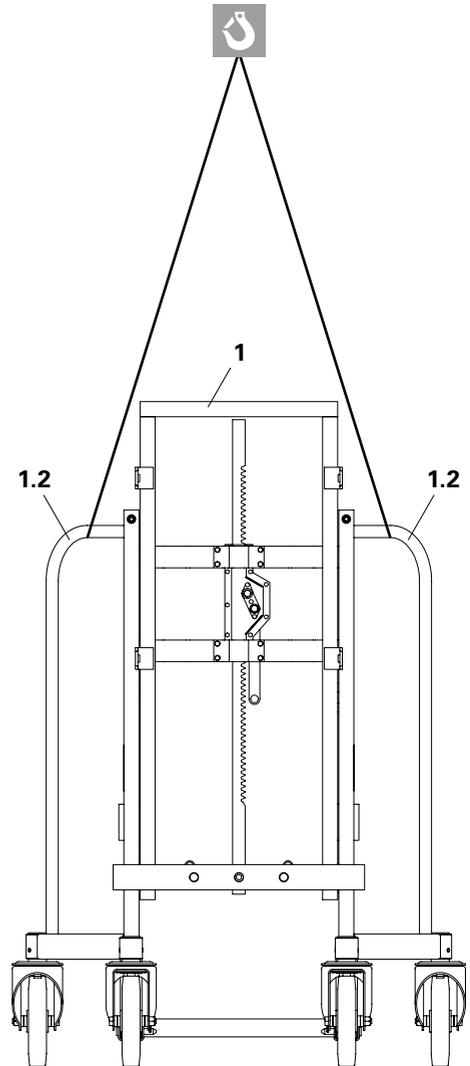

Fig. 29
- ⇒ Do not attach the lifting gear to the Lifting Frame (1).
1. Completely lower the Lifting Frame (1) of the basic unit.
4. Secure Trolley with Winch additionally with tension straps. (Fig. 29)